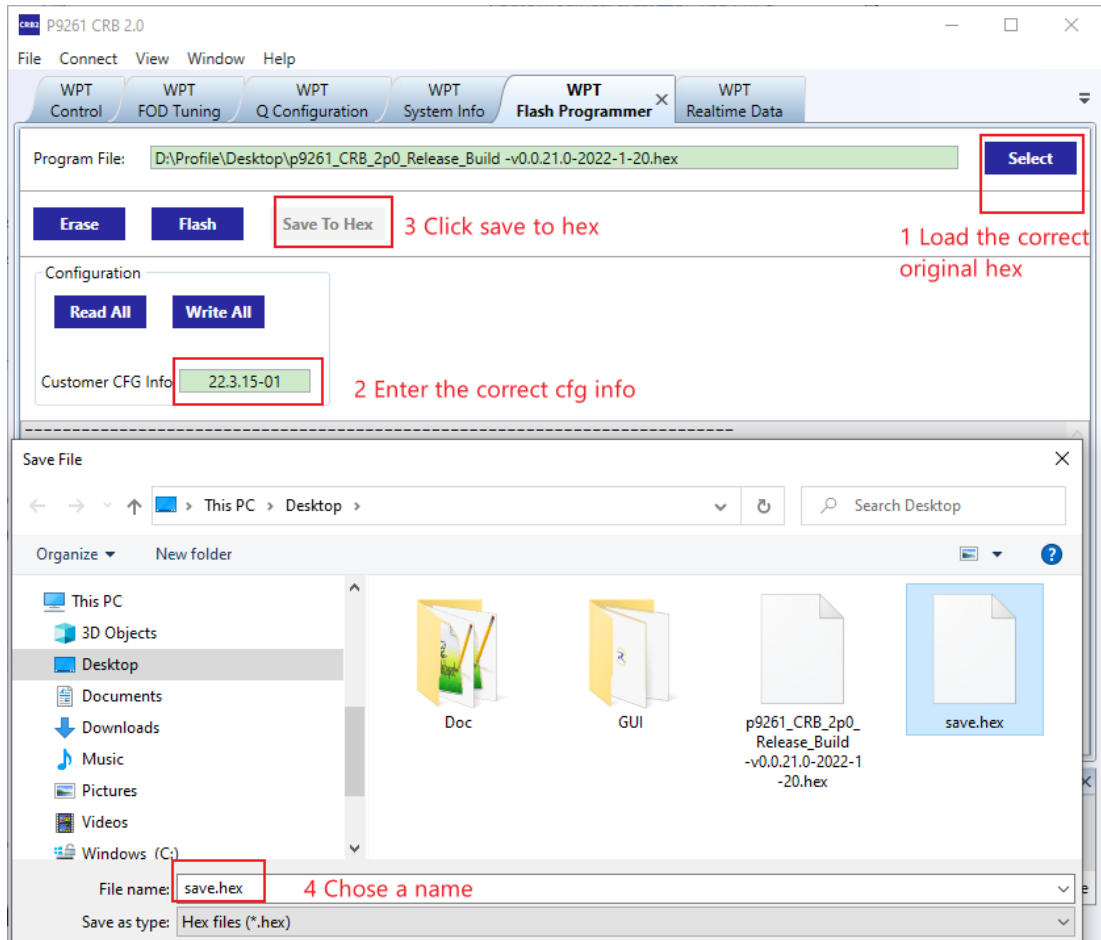

Figure 5. Windows Dialog Box to save.hex File under New User Defined Name
- Save the FW onto a new hex file. Go to the “WPT Flash Programmer” tab and click on “Save to hex file” (see Figure 5). A dialog box will be open. Choose the name of the file and the location to save it.